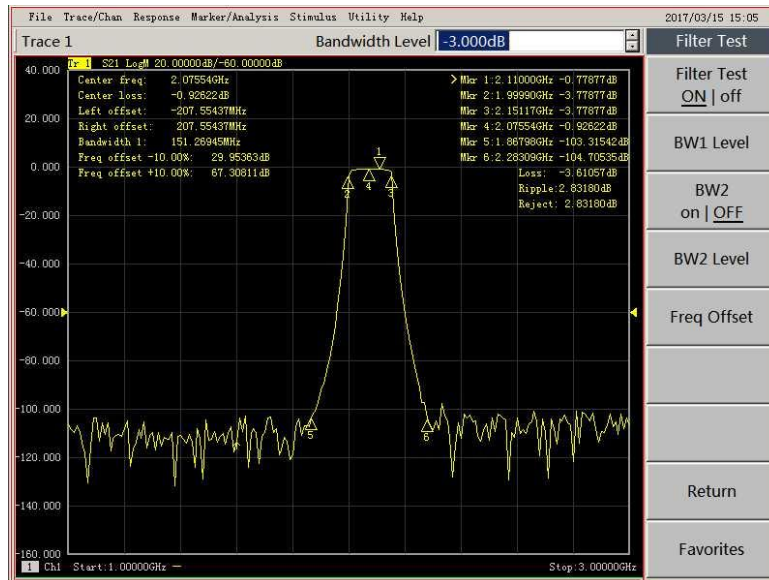

Figure 3-14 Filter Statistics
- Press **【Search】** key on front panel. Press **[Filter Stats on|OFF]** and turn on filter statistics in **Search** soft key menu. When it is shown as the red circle marked in **Search** soft key menu in the left in Figure 3-14, it displays the menu status when **Filter Statistics** is opened.
- Press [**Bandwidth**] as shown in Figure 3-14. Press [**Filter Test**] in soft key menu of **Bandwidth Search**. Press [**Filter Test on|OFF**] in soft key menu of **filter test**. As shown in Figure 3-14, the rightmost menu indicates Filter Test function is on.